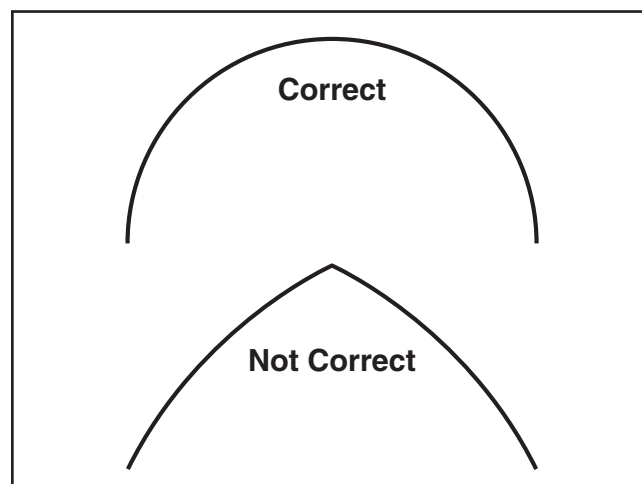

Figure 19. Comparison of correct and incorrect blade weld bends.
9. Test the strength and flexibility of the weld by bending the blade in an arc (with the weld at the top of the arc) similar in size and shape of the bandsaw wheels. The blade should bend smoothly without any angles (see **Figure 19**).